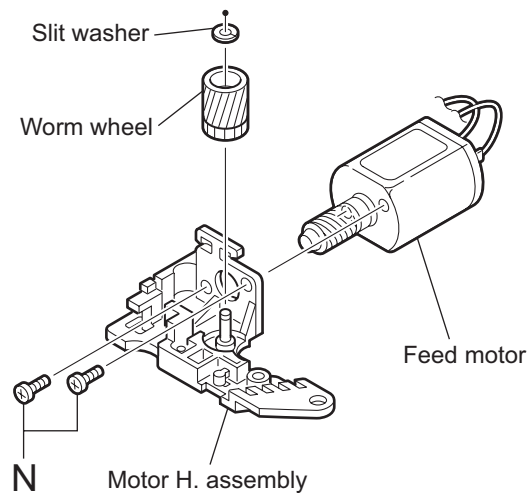

Fig.22
- Remove the slit washer from the motor H. assembly and pull out the worm wheel. (See Fig.22.)
Remove the two screws **N** attaching the feed motor. (See Fig.22.)